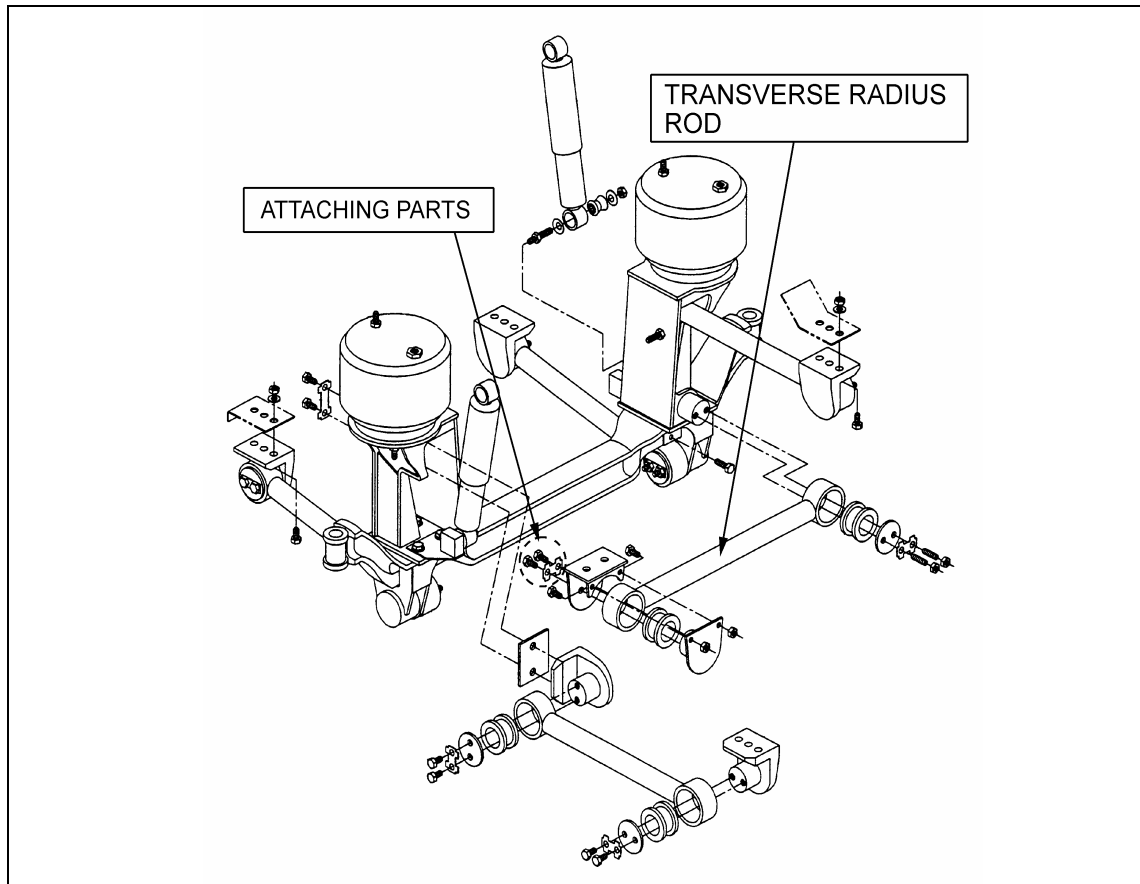

FIGURE 2 : FRONT SUSPENSION NON-LUBRICATED BOLTS
1. Locate the two bolts used to secure the front suspension transverse radius rod. Only the bolts identified in figure 2 must be lubricated.